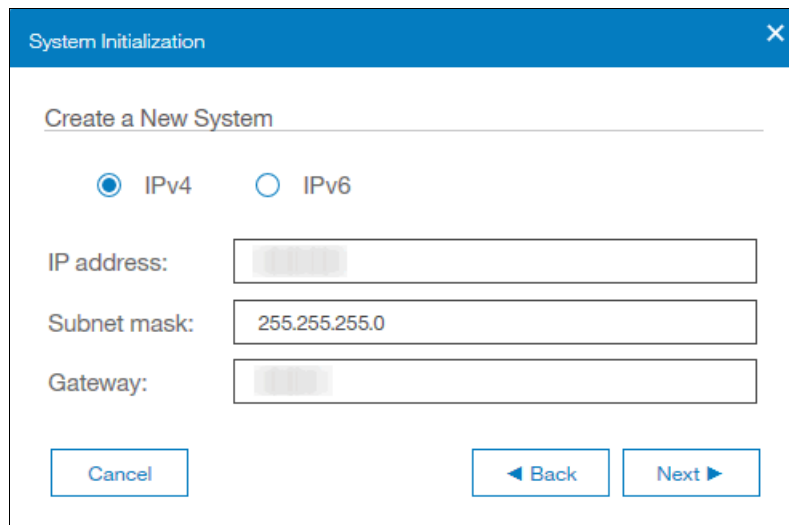

Figure 6-50 System initialization create a new system pane
11. Enter the information from system planning worksheets (Figure 6-50):